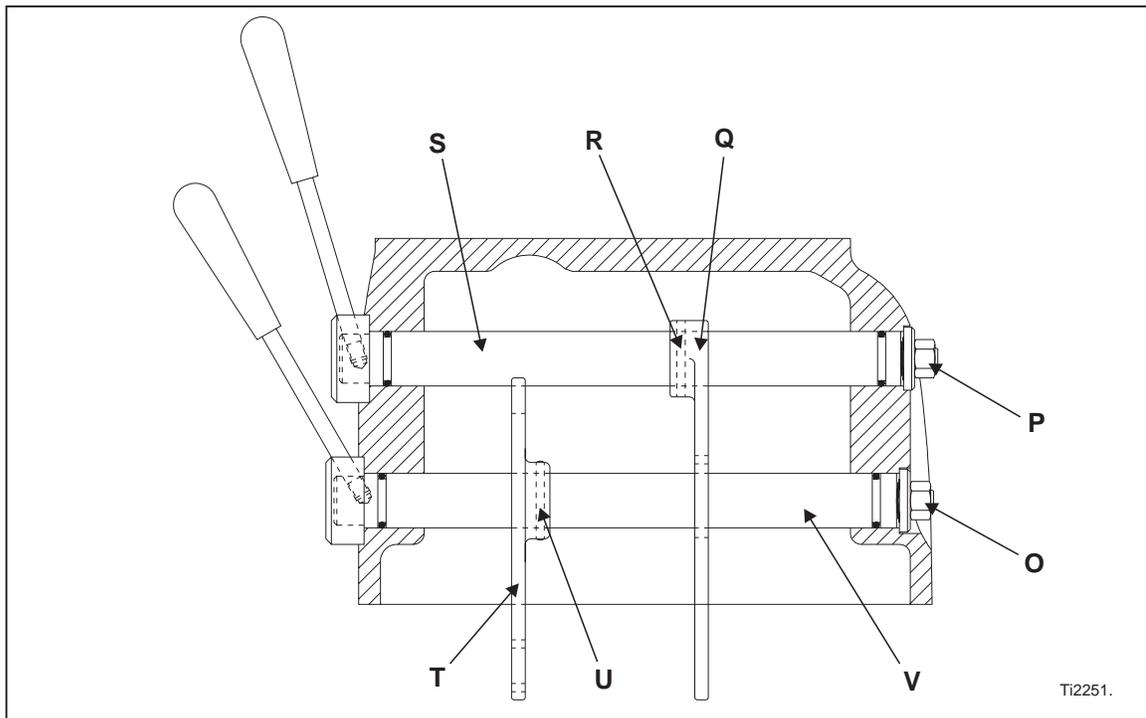

Figure 6.32 - Sectioned View of Bed Assembly
Taper pin "U", Figure 6.32, can be accessed through the spindle drive motor compartment
37. Using a hammer and punch, remove taper pin "U", Figure 6.32, from the lower shaft to free the reverse lever.
39. Hold reverse lever "T", Figure 6.32, and remove shaft assembly "V".
42. Hold speed lever "Q", Figure 6.32, and remove shaft assembly "S".
Some of the steps in this procedure will refer to the illustration in Figure 6.32, as well as the appropriate photograph(s).
1. Hold speed lever "Q", Figure 6.32, in position and slide shaft assembly "S" into the bed assembly.
3. Align the hole in speed lever "Q", Figure 6.32, with the hole in the shaft assembly "S".